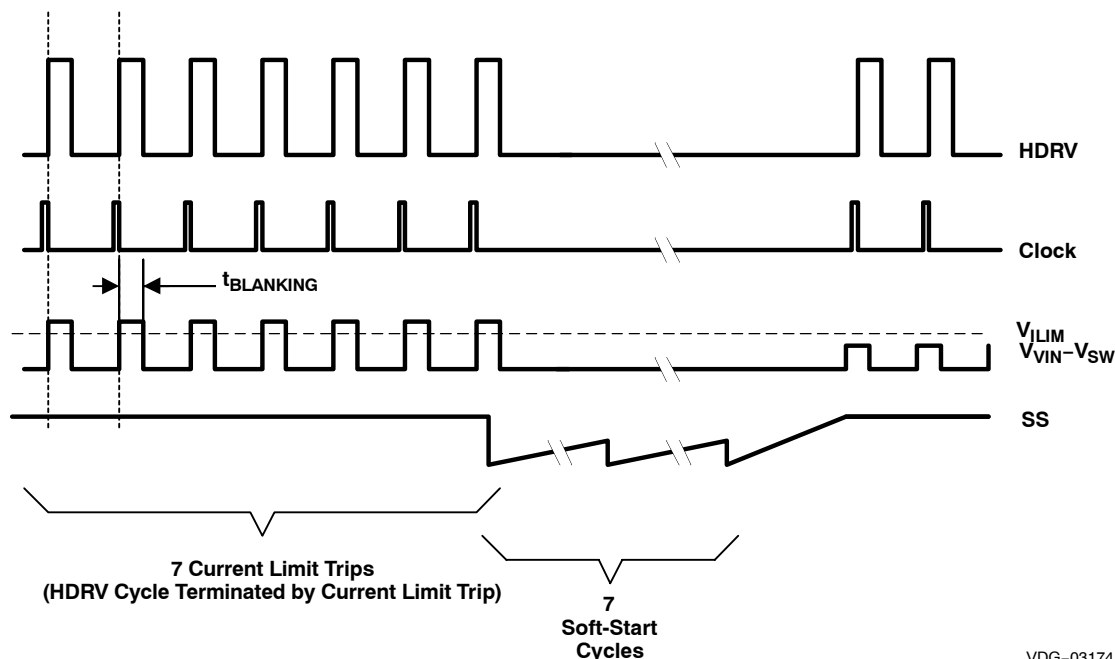

Figure 10. Typical Fault Protection Waveforms
The second tier protection incorporates a fault counter. The fault counter is incremented on each cycle with an overcurrent pulse and decremented on a clock cycle without an overcurrent pulse. When the counter reaches seven (7) a fault condition is declared by the controller. When this happens, the outputs are placed in a state defined in Table 2. Seven soft-start cycles are initiated (without activity on the HDRV and LDRV outputs) and the PWM is disabled during this period. The counter is decremented on each soft-start cycle. When the counter is decremented to zero the PWM is re-enabled and the controller attempts to restart. If the fault has been removed the output starts up normally. If the output is still present the counter counts seven overcurrent pulses and re-enter the second tier fault mode. Refer to Figure 10 for typical fault protection waveforms.